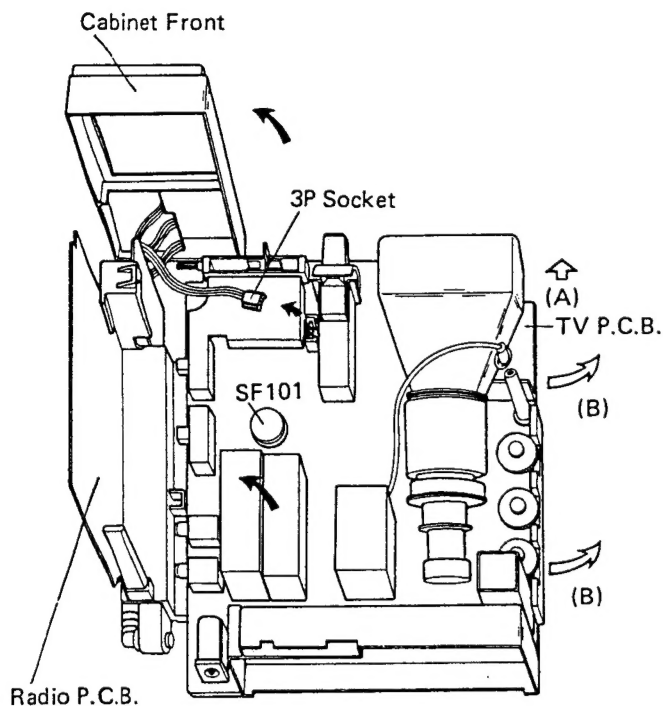

Figure 5
6. Take out the 3P socket from the TV P.C.B. as indicated in Figure 5.
7. Lift the Radio P.C.B. and Cabinet Front in the direction of the arrow as indicated in Figure 5.
2. Slightly pull the TV P.C.B. in the direction (A) and lift it in the direction (B) of the arrow as indicated in Figure 5. Then, the TV P.C.B. will be removed.